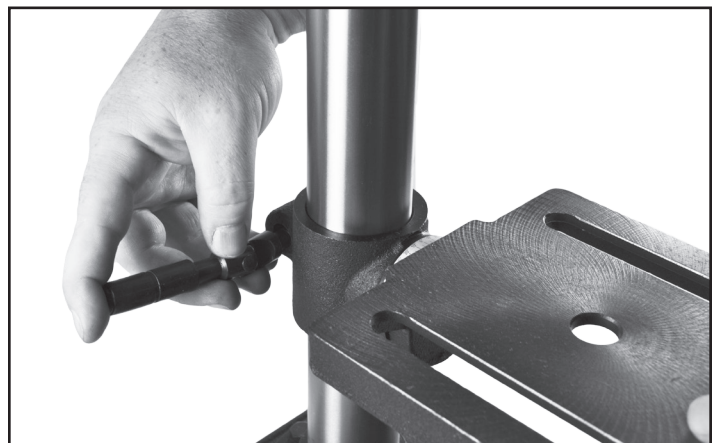

FIG. 2
2. Next, install the table lock handle through the un-threaded hole on the left of the table support casting. The handle should engage the thread on the right side of the table support casting. FIG. 2.